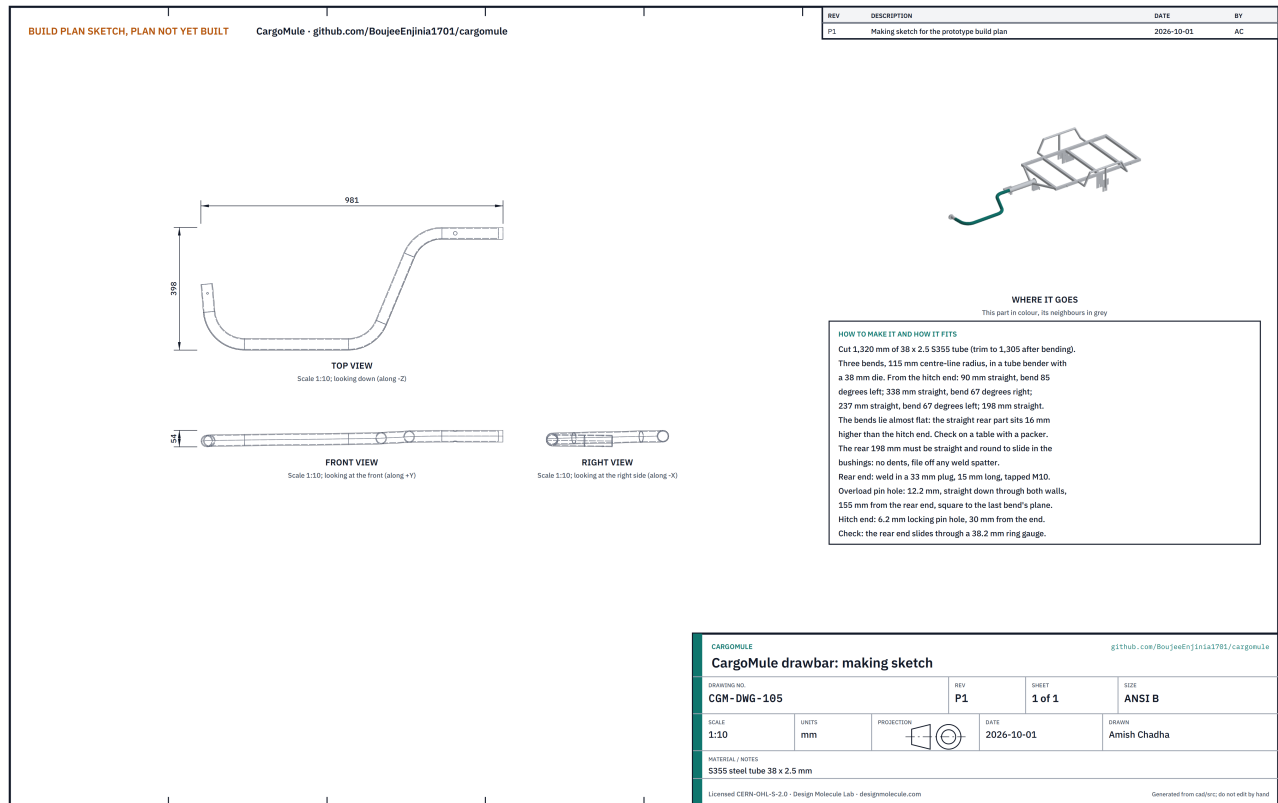

Figure 12. Drawbar making sketch (CGM-DWG-105).
2. In a tube bender with a 38 mm die and 115 mm centre-line radius: 90 mm straight, bend 85 degrees; 338 mm straight, bend 67 degrees the same way; 237 mm straight, bend 67 degrees back the other way; 198 mm straight to the rear end. Lay it out on the floor to match the top view in Figure 12 before each bend.